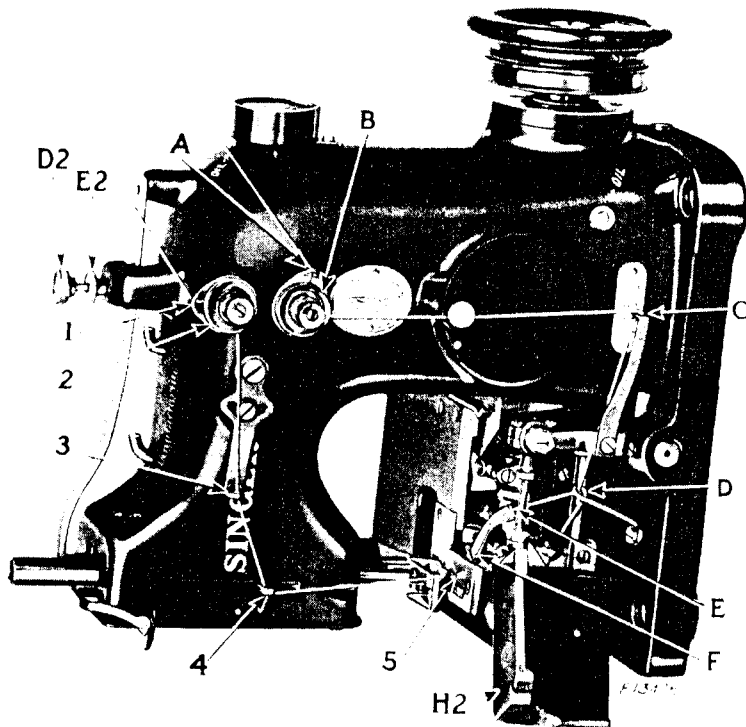

Fig. 5. Needle and Loper Threading
on the thread stand up and over the hook on the ring at the top of the thread stand, down into the tension thread guide (1, Fig. 5), around, over from front to back between the tension discs (2), down through the eye of the thread controller (3), through the hole in the end of the thread take-up (4), and from right to left through the eye of the needle (5). Draw about two inches of thread through the eye of the needle with which to commence sewing.
Swing open the cover (H2, Fig. 5) at the front of the bed of the machine and turn the balance wheel over to the right until the needle is at its highest position.
Pass the thread from the spool on the thread stand, up and over the hook on the ring at the top of the thread stand, down into the tension thread guide (A, Fig. 5), around, under from front to back between the tension discs (B), downward through the thread controller eyelet (C), through the wire thread guide (D) attached to the bed of the machine; pass the thread under the hook (E) in the heel of the looper, along the groove in the looper and from right to left through the eye (F) in its point. Draw about two inches of thread through the eye of the looper with which to commence sewing. Close the cover (H2).
The pressure of the presser foot on the material is regulated by means of the thumb screw (D2, Fig. 5) at the top of the machine. To increase the pressure, loosen the lock nut (E2, Fig. 5) and turn the thumb screw (D2) downward. To decrease the pressure, turn the thumb screw (D2) upward. When the desired pressure is obtained, securely tighten the lock nut (E2).